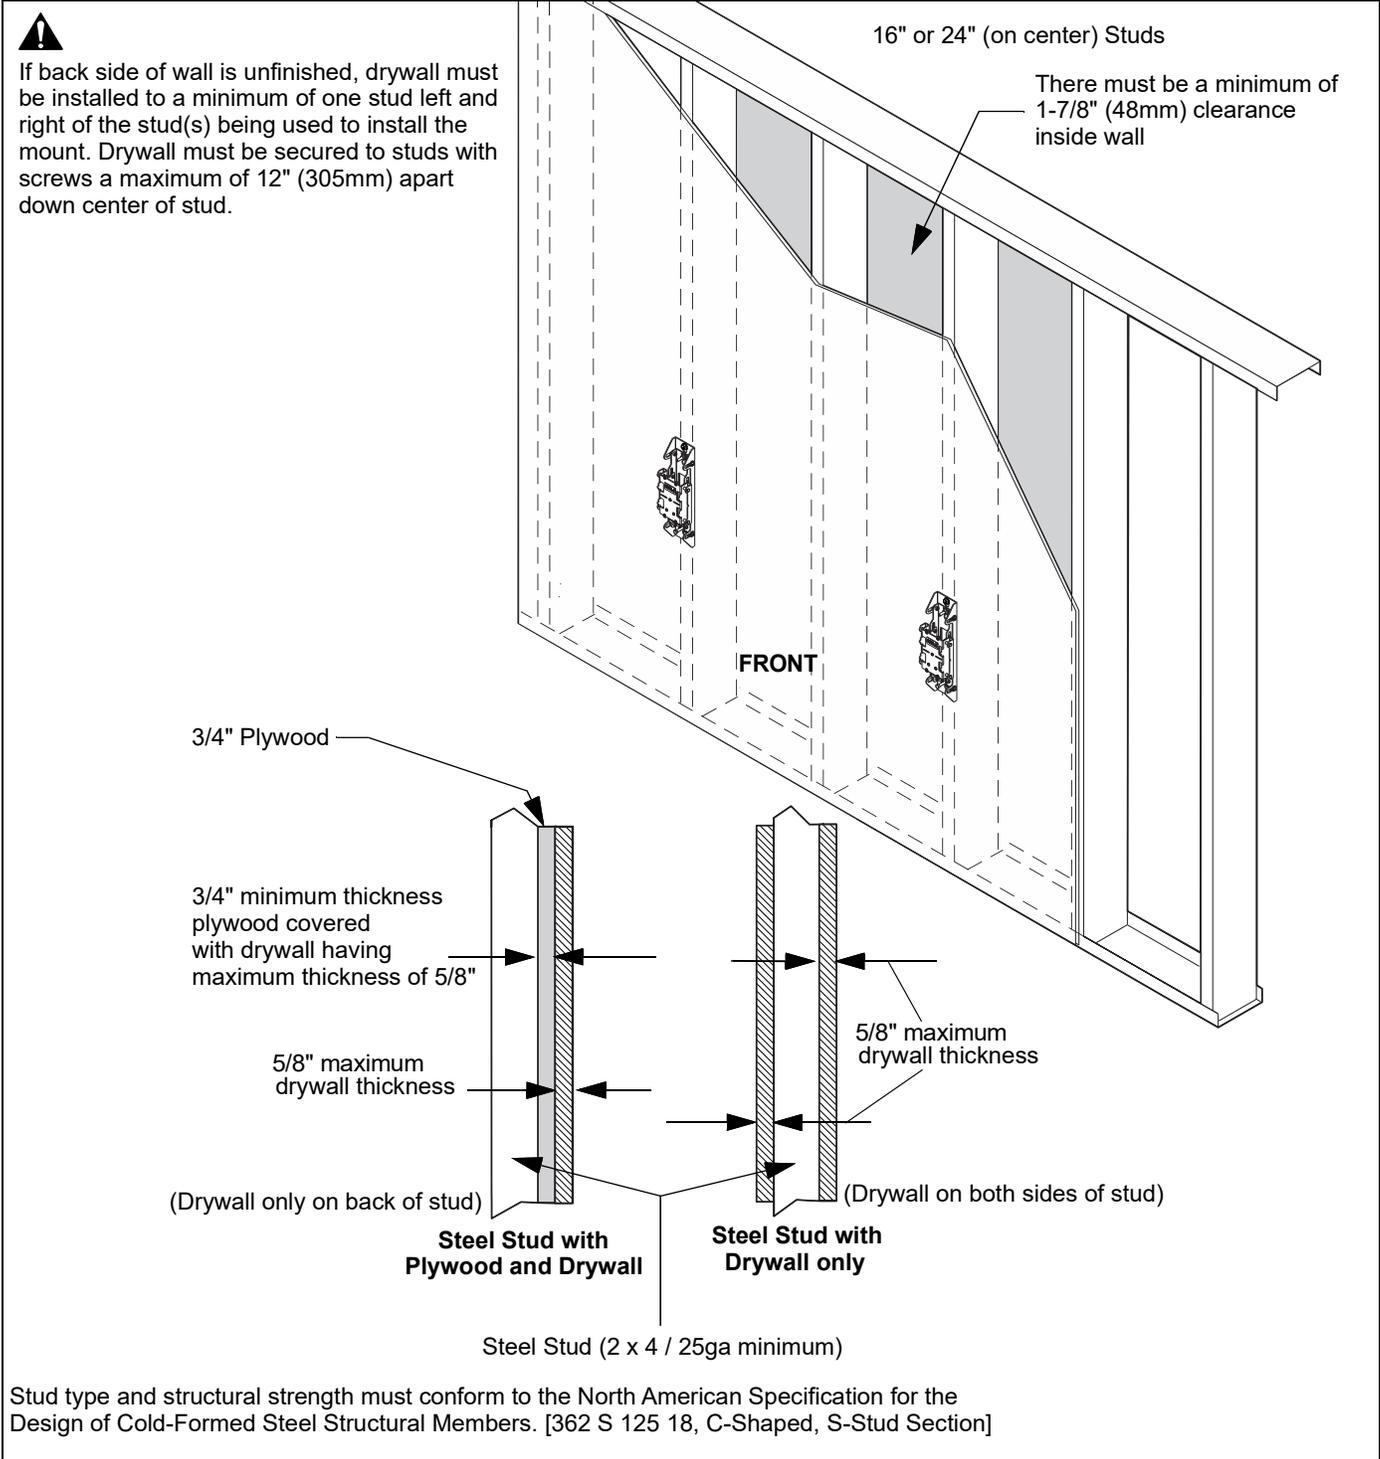

Figure 10
1. **Installing BETWEEN steel studs into 3/4" plywood (covered in 1/2" or 5/8" drywall):** Use two 1/4-20 BB Snaptoggle anchors with two minimum 2-1/2" long, minimum Grade 5 screws through wall upright into plywood. (Hardware not included.) (See Figure 10)
2. **Installing into plywood (covered in 1/2" or 5/8" drywall) AND steel stud:** Use two 1/4-20 BB Snaptoggle anchors with two minimum 2-1/2" long, minimum Grade 5 screws through wall upright and into plywood and steel stud. (Hardware not included.) (See Figure 10)
3. **Installing into steel stud (covered in 1/2" or 5/8" drywall):** Use two 1/4-20 BB Snaptoggle anchors with two minimum 2-1/2" long, minimum Grade 5 screws through wall upright and into drywall and steel stud. (Hardware not included.) (See Figure 10)